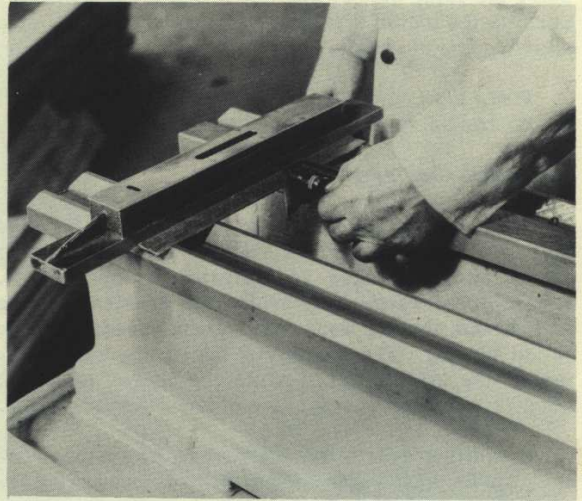

Figure 5. Leveling the Tailstock End
2. Move level to tailstock end of bed, approximately ten inches from end and repeat this procedure (Figure 5). The reading at this point must correspond to reading at headstock end. For a properly leveled lathe, these readings must be identical. Floor should be solid and as free from vibration as possible.